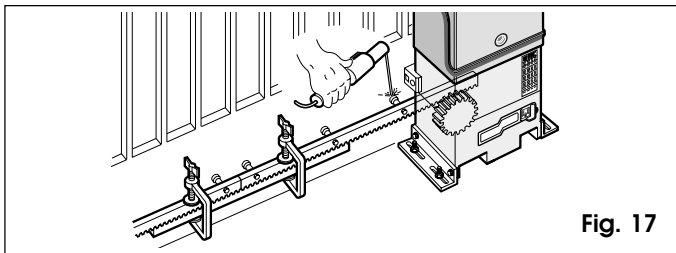

Fig. 17
- 5) Position another rack element next to the previous one, using a section of rack as in Fig. 17, to synchronize the teeth of the two elements.
- 5) Position another rack element next to the previous one, using a section of rack as in Fig. 17.